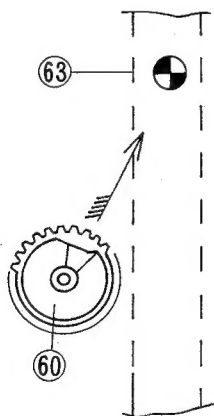

Figure 14
When Cam (60) is replaced, make sure that the depressed part on the cam should be mounted facing with the tonearm (Fig. 14).